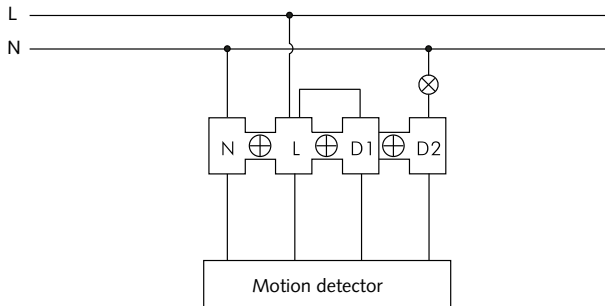
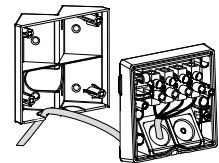
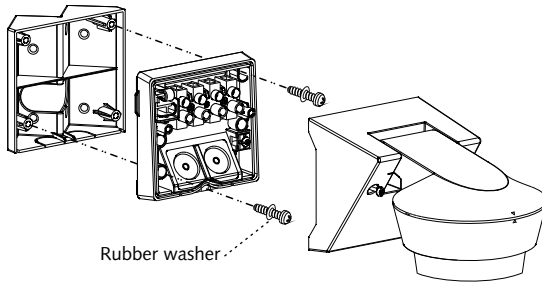
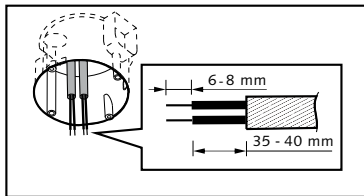

Fig. 5
Fig. 14-C
Fig. 16
Fig. 17-A
Normal operation for lighting control (See Fig. 5)
3. Feed the electric cables through rubber gasket (see Fig. 8) and refer to illustration of Fig. 5 - Fig. 7 for correct wiring, then fit the bottom cover on the wall or ceiling firmly by two screws (See Fig. 10).
- Break the desired screw knock-outs (See Fig. 14-A). Then fix the mounting bracket onto recess/corner with wood screws (See Fig. 15-A & Fig. 15-B), and fix bottom cover on mounting bracket (See Fig. 16). Refer to Fig. 5-Fig. 7 to connect power cables, then fix the detector head to the bottom cover and adjust the detector head to be in the correct position.
1. Pull out AC power cables from European standard junction box (See Fig. 17-A) then strip off 6-8mm of cable sheathing for wiring.
2. Feed the electric cables through rubber gasket (See Fig. 8) and refer to Fig. 5 - Fig. 7 for correct wiring. Then fit the bottom cover on the European standard junction box firmly by two screws (See Fig. 10 - Fig. 17-B).